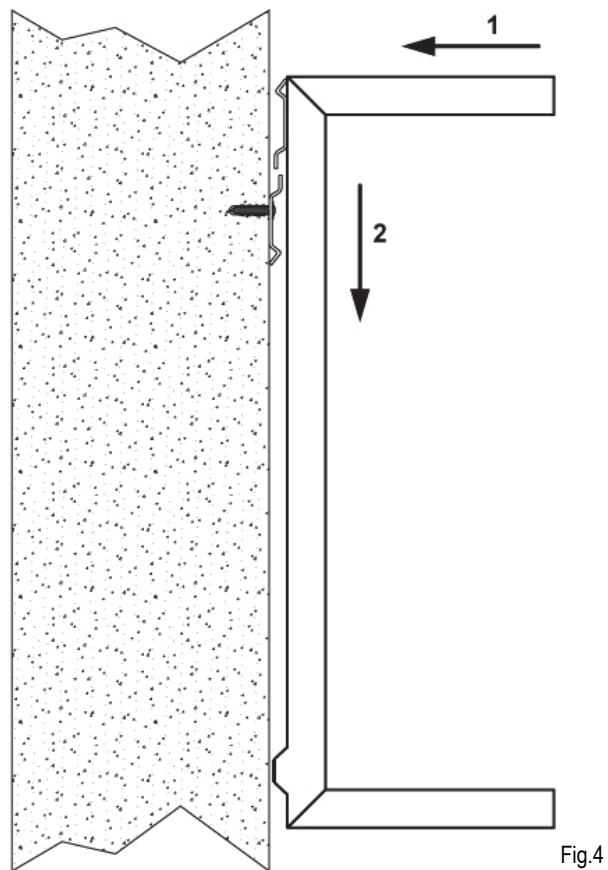

Fig.4
- To fix your SPEED to the fixing bar, first of all lean it to the wall (it must be over the guide on the wall. See point No.1 on Figure 4) and Slide down(see point No.2 on Figure 4).